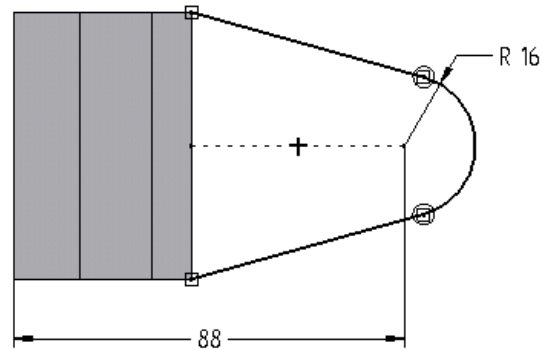

Figure 5-52 Open profile for the second feature
2. Draw the profile for the second feature using various sketching tools and then add the required dimensions and relationships to the profile, as shown in Figure 5-52. Note that you do not need to draw the vertical line on the left to close the sketch. While creating the feature, you can define the side of material addition to complete the feature.